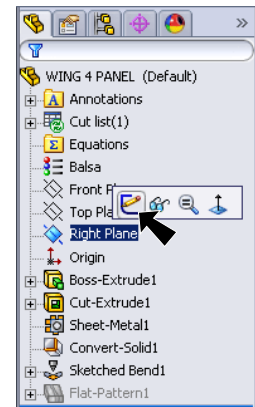

Fig. 17
Step 1. Click **Right Plane**  in the Feature Manager and click **Sketch**  from the Content toolbar, **Fig. 17**.